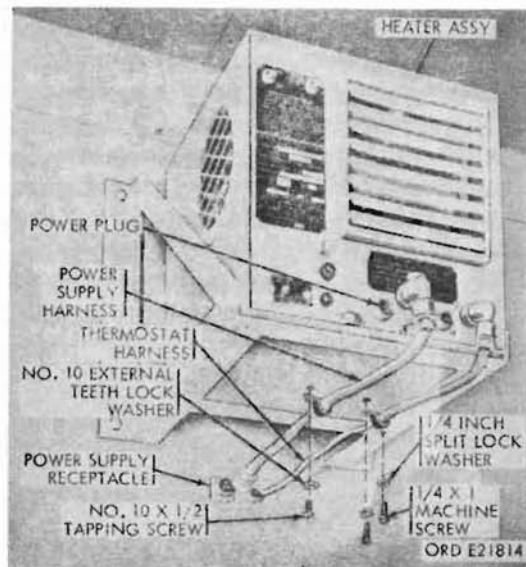

Figure 379. Heater power supply harness and connectors
- (10) **Heater fuel pump.** The heater fuel pump (fig. 376), is located on the exterior of the van at the lower right front corner of the body, supplies gasoline from the vehicle fuel tank to the heater (fig. 379). The fuel pump operates from a 24-volt dc power supply located inside the heater.
- (1) Turn heater switch (located on heater) to OFF position (fig. 379).
- (3) Remove two screws, lockwashers, and retaining clips from power supply and thermostat harnesses on bottom of heater (fig. 379) and disconnect harness at both ends.
- (6) Remove four machine bolts, washers, and lockwashers attaching heater to heater support bracket (see fig. 379), and slide heater off support bracket.
- (6) Insert heater power supply plug into 115-volt ac power receptacle on van body front wall and tighten connector locking (fig. 379). Connect heater power supply and thermostat harnesses to heater front panel connectors.
- (7) Install two existing screws, lockwashers, and retaining clips securing power supply and thermostat harnesses to bottom of heater (fig. 379).